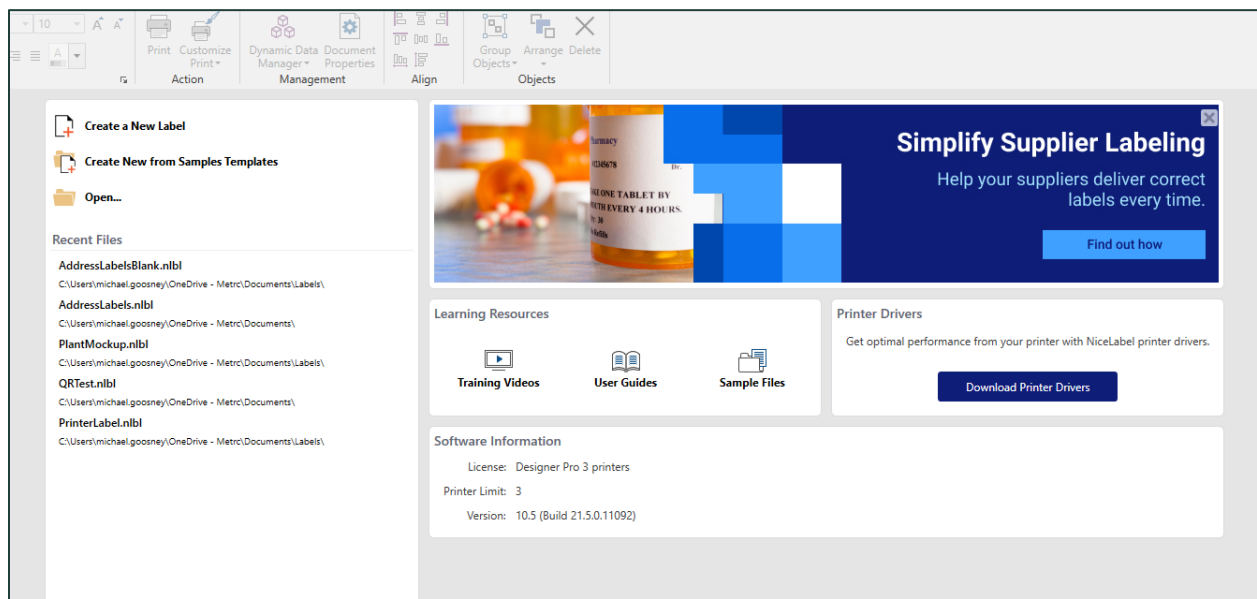

Figure 8: Create a New Label
2. Create a New Label or open an existing label template – **see figure 8.**